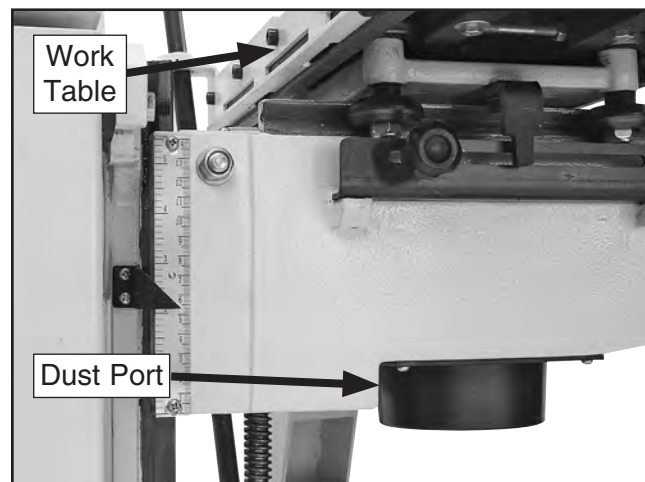

Figure 13. Dust port location.
- Attach 4" dust hose to dust port under work table where shown in **Figure 13**, and secure in place with a hose clamp.